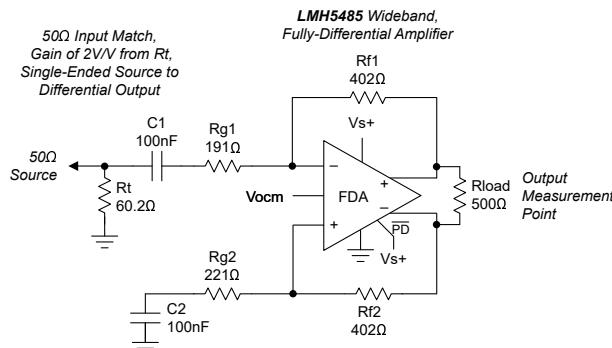
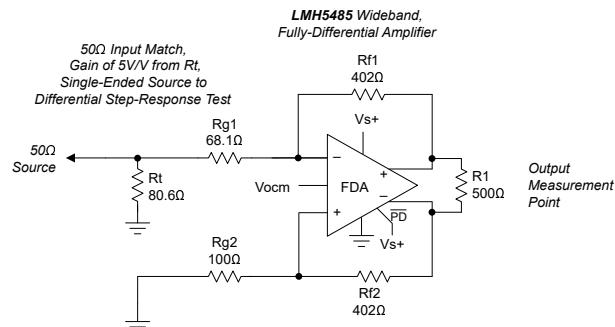

Figure 7-1. AC-Coupled, Single-Ended Source to a Differential Gain of a 2V/V Test Circuit
Figure 7-2. DC-Coupled, Single-Ended-to-Differential, Basic Test Circuit Set for a Gain of 5V/V
Single-ended input to differential output, simulated differential output impedance, see Figure 7-1
Single-ended input to differential output, gain of 2 (see Figure 7-1), simulated with 1% resistor, worst-case mismatch
Single-ended to differential, gain of 2 (see Figure 7-1) PSRR simulated to differential output
Average Vocom output offset of 37 units, standard deviation < 2.5mV, see Figure 7-2
Single-ended to differential gain of 2 (see Figure 7-1), PSRR for negative supply to differential output (1kHz simulation)
Single-ended to differential gain of 2 (see Figure 7-1), PSRR for positive supply to differential output (1kHz simulation)
see Figure 7-2
The LMH5485-SP offers the advantages of a fully differential amplifier (FDA) design, with the trimmed input offset voltage of a precision op amp. The FDA is an extremely flexible device that provides a purely differential output signal centered on a settable output common-mode level. The primary options revolve around the choices of single-ended or differential inputs, ac-coupled or dc-coupled signal paths, gain targets, and resistor value selections. Differential sources can certainly be supported and are often simpler to both implement and analyze. Figure 7-1 and Figure 7-2 show examples of both ac and dc coupled single-ended to differential circuits.
Figure 7-1 shows how most characterization plots fix the R_f value at 402Ω. This value is completely flexible in application, but the 402Ω provides a good compromise for the issues linked to this value, specifically:
- Added output loading. The FDA appears like an inverting op amp design with both feedback resistors as an added load across the outputs (approximate total differential load in Figure 7-1 is $500\Omega \parallel 804\Omega = 308\Omega$).
The outputs offer near rail-to-rail output swing (0.2V headroom to either supply), while the device inputs are negative rail inputs with approximately 1.2V of headroom required to the positive supply. Figure 7-2 shows how this negative rail input directly supports a bipolar input around ground in a dc-coupled, single-supply design. Similar to all FDA devices, the output average voltage (common-mode) is controlled by a separate common-mode loop. The target for this output average is set by the V_{OCM} input pin that can be either floated to default near midsupply or driven to a desired output common-mode voltage. The V_{OCM} range extends from a very low 0.91V above the negative supply to 1.1V below the positive supply, supporting a wide range of modern analog-to-digital converter (ADC) input common-mode requirements using a single 2.7V to 5.4V supply range for the LMH5485-SP.
Going to the device input pins side, because both the source and balancing resistor on the nonsignal input side are dc blocked (see Figure 7-1), no common-mode current flows from the output common-mode voltage, thus setting the input common-mode equal to the output common-mode voltage.
The output considerations remain the same as for the ac-coupled design. Again, the input can be dc-coupled while the output is ac-coupled. A dc-coupled input with an ac-coupled output can have some advantages to move the input V_{ICM} down if the source is ground referenced. Figure 7-2 shows how when the source is dc-coupled into the LMH5485-SP, both sides of the input circuit must be dc coupled to retain differential balance. Normally, the nonsignal input side has an R_g element biased to whatever the source midrange is expected to be. Providing this midscale reference gives a balanced differential swing around V_{OCM} at the outputs.